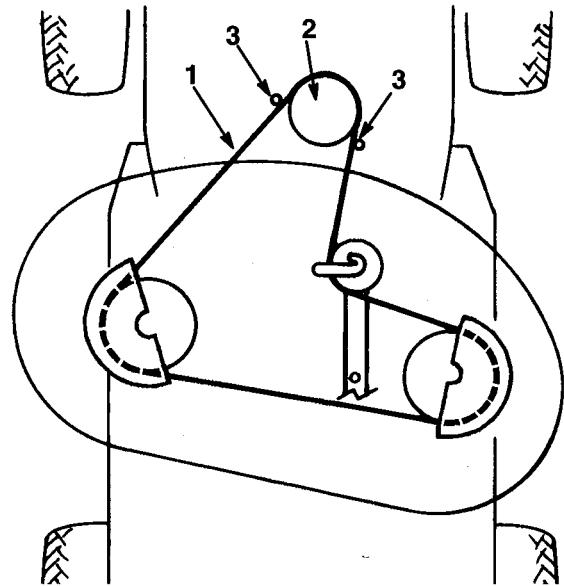

Figure 42
- Remove the mower belt from the lower engine pulley (Fig. 42). If you are careful, you can flex the belt guide(s) just far enough away from the pulley to remove the belt. If it is too difficult to remove the belt, loosen the bolts and nuts securing the belt guides.
4. Install mower belt onto the lower engine pulley (Fig. 42). If you are careful, you can flex the belt guide(s) just far enough away from the pulley to install the belt. If it is too difficult to install the belt, loosen the bolts and nuts securing the belt guides. If it is too difficult to install the belt, loosen the bolts and nuts securing the belt guides.